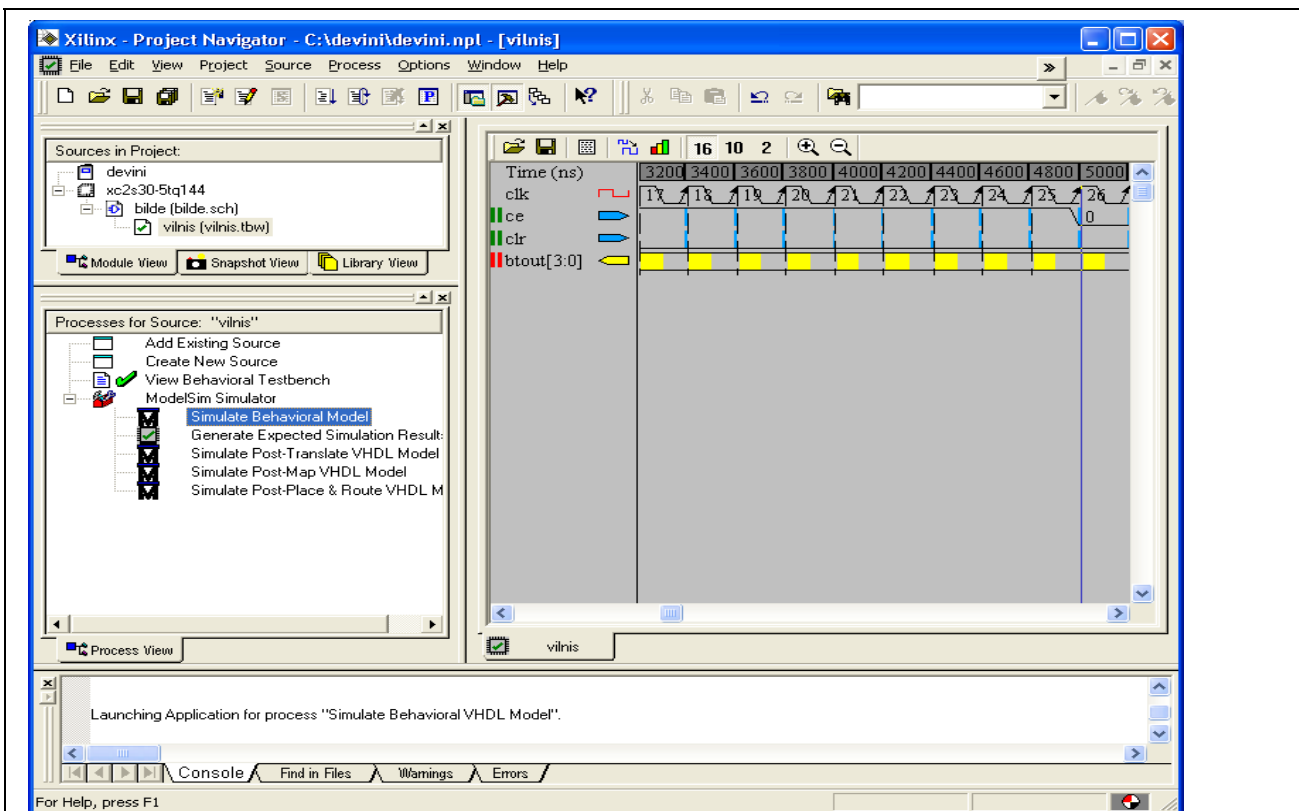
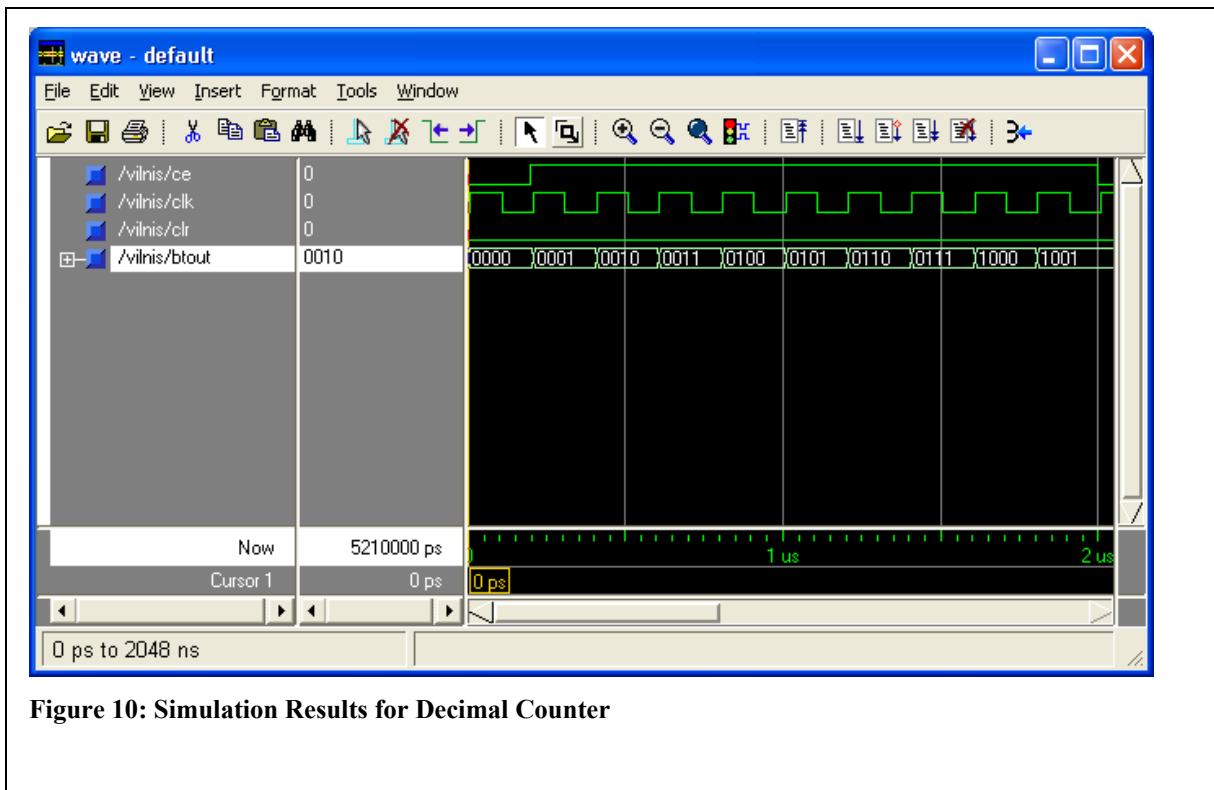

Figure 9: Testbench Waveforms for Decimal Counter
Figure 10: Simulation Results for Decimal Counter
wide, btout(3:0). Start a new project with schematic entry at the highest level. Enter your design in the usual fashion naming the inputs ce, clk and clr. To generate a bus for output draw a line using the wiring tool and give it a name btout(3:0). The program will change the line into a thicker, bus, line in correspondence with the name. Attach the bus taps as indicated and name them btout(0) to btout(3) using the “add net name” tool. To connect wires to the bus it is best to check the “automatically add a bus tap between the bus and the wire” in the left hand window when the wiring tool is selected. Be sure to save the design and check for errors. If none are found go back to “Project” and create a new source of type “Testbench Waveform” using a single clock. Provide changes in the logic states of “ce” and “clr” to fully test your design. The page should look something like Figure 9. Save this file and go to “Simulate Behavioral Model”. Verify that your logic is working properly by examining the outputs on the “Wave” plot. The plot below (Figure 10) shows the results for the 0 to 9 counter. Note that the “btout” bus is given numerically after each clock transition.